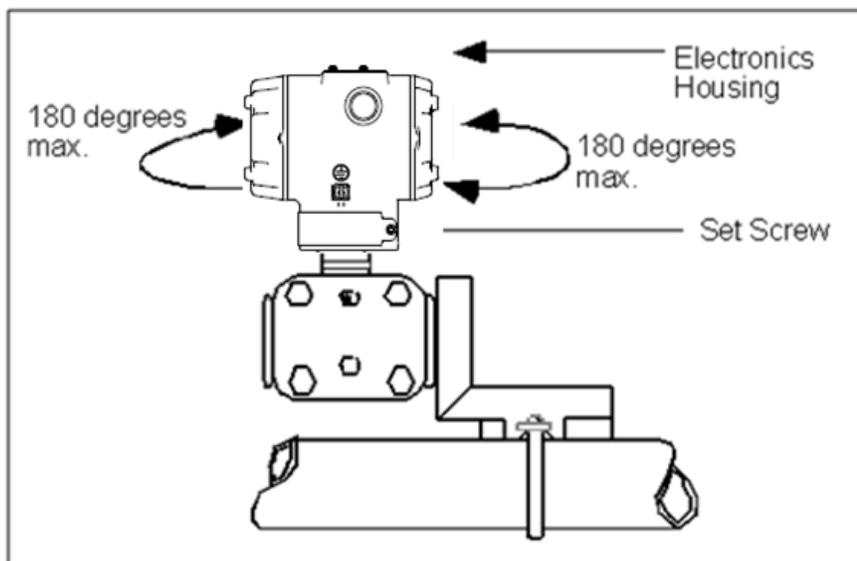

Figure 7 – Rotating the Electronics Housing
3. Loosen the set screw on the outside neck of the Transmitter one (1) full turn.
4. Rotate the Electronics housing a maximum of 180° left or right from the center to the position you require, and tighten the set screw 8.9 to 9.7 pound-inches (1.40 to 1.68 Newton meters), using a 4mm metric socket head wrench. See the following example and Figure 7.